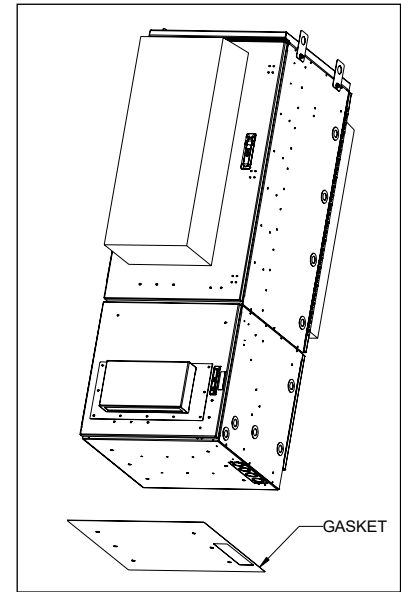

Figure 7 Gasket Installation
3. Install the gasket by positioning it on the pad so that it is underneath the bottom of the CUBE when the cabinet is installed. Line up the gasket so that the cutouts are in proper position around the conduit opening and over the anchor bolts as shown in Figure 7.